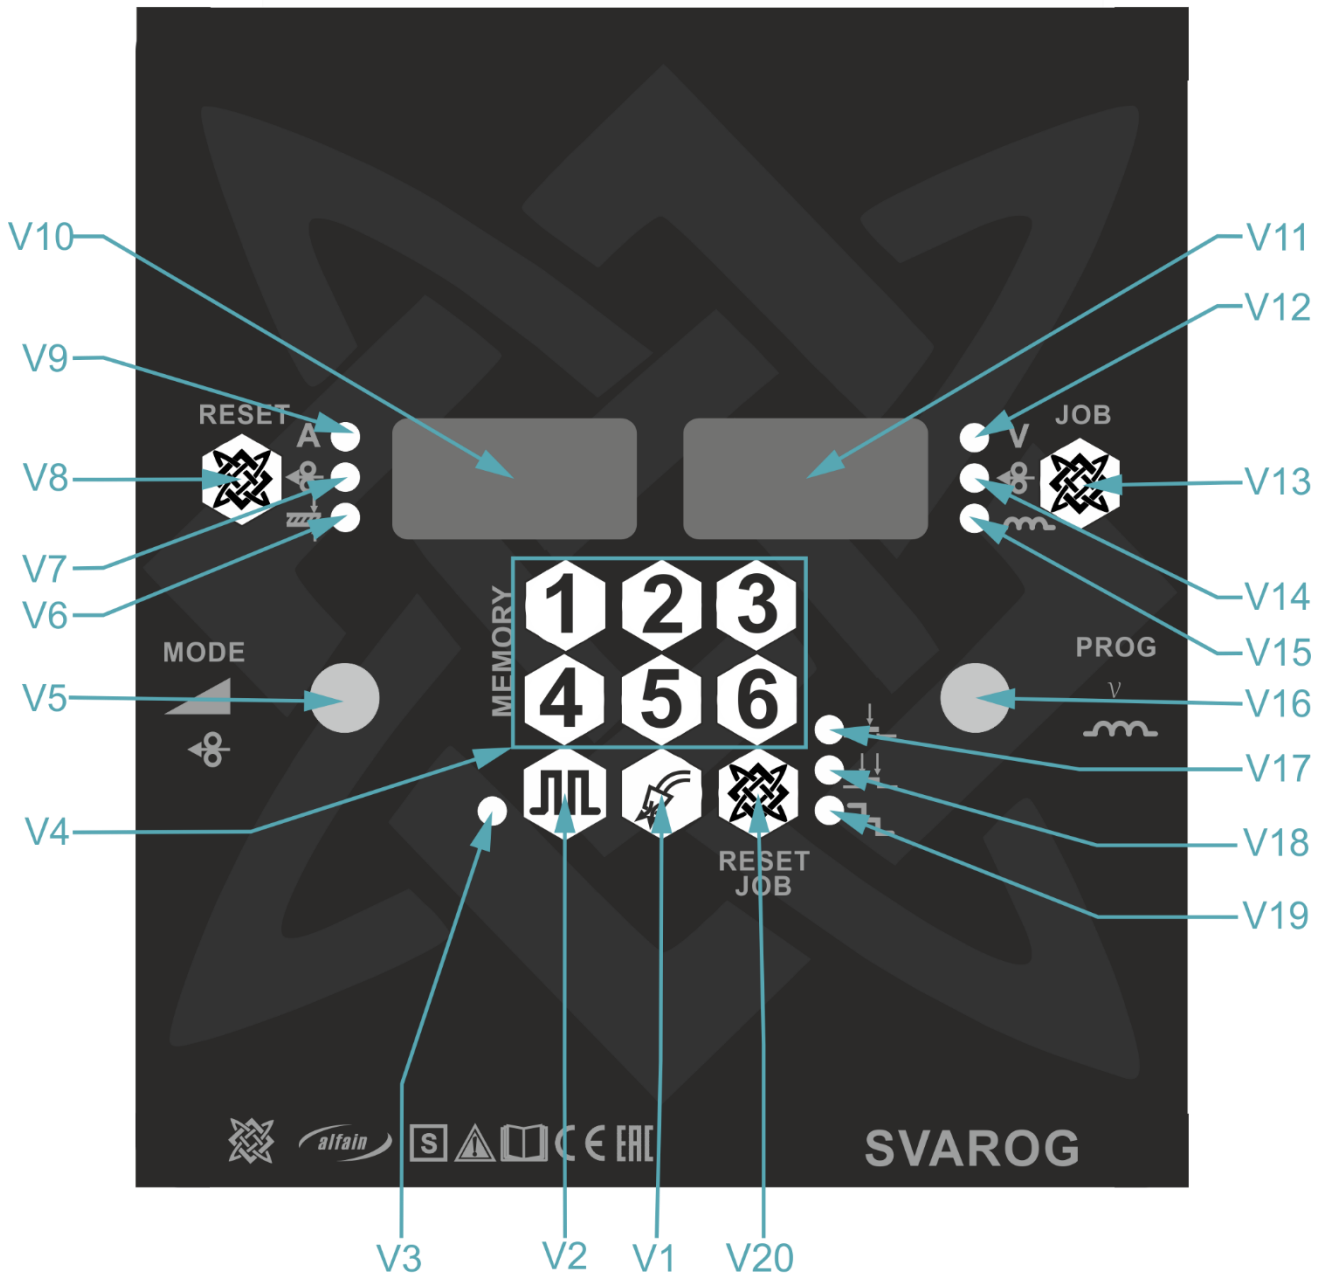

Figure 7 - Control Panel
2. Press button **V1** (fig. 7) on the main panel to switch on the gas valve. If the button is pressed for less than 3 s, the gas valve will be switched off when the button is released. If the button press time is longer than 3 s, the gas valve will be switched off after approx. 20 s or after pressing any button.